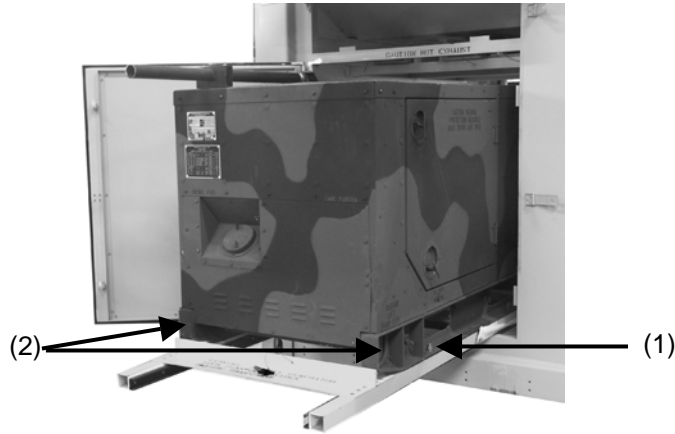

Figure 4-16. Generator slid out of mechanical room.
- Slide generator out as far as it will go to one side (Fig.4-16).